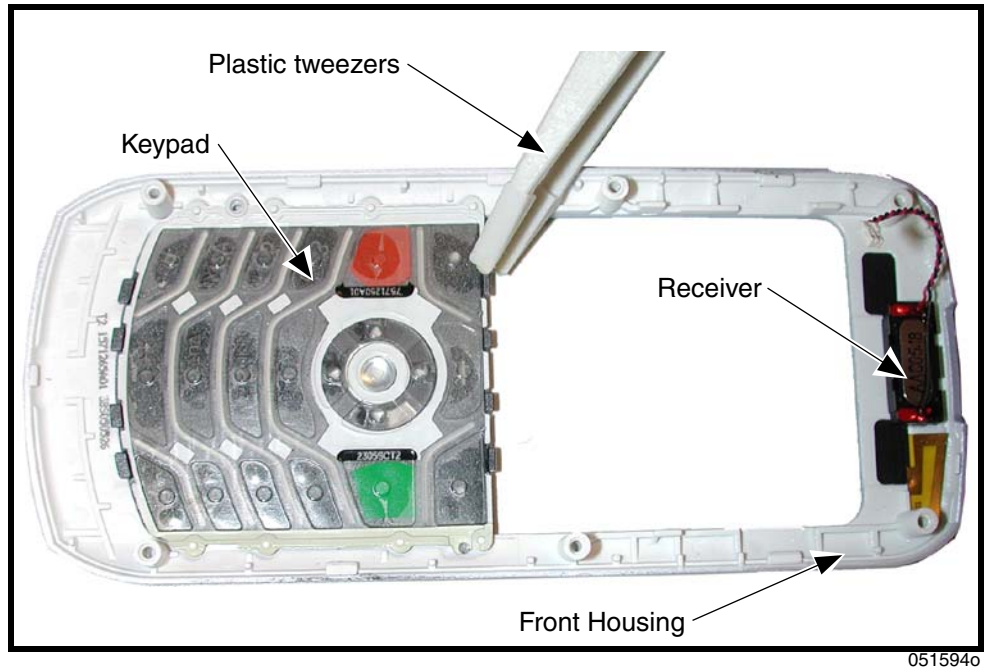

Figure 21. Removing and Replacing the Keypad
2. Lift the keypad up from one corner as shown in Figure 21 and remove it from the front housing.